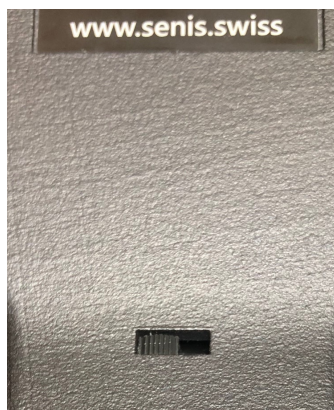

Figure 1: SENIS 3MH1-E Handheld Teslameter, Back side with battery switch in operational position (left side)
3. Insert the probe into the socket on the teslameter body firmly as shown in Fig.1, pos 1
The 3MH1-E Hall probe can also be connected to the teslameter body by means of the supplied probe extension cable. The procedure for connecting Hall probe over the cable is similar as when the Hall probe is connected directly to the teslameter body (Figure 1).